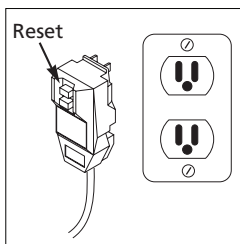

Fig. 13
- Unwind the power cord completely and plug the GFCI into a grounded 120 volt outlet. Press the 'reset' button on the GFCI box (Fig. 13). The indicator window should show a red color. This must be done each time the unit is plugged in.